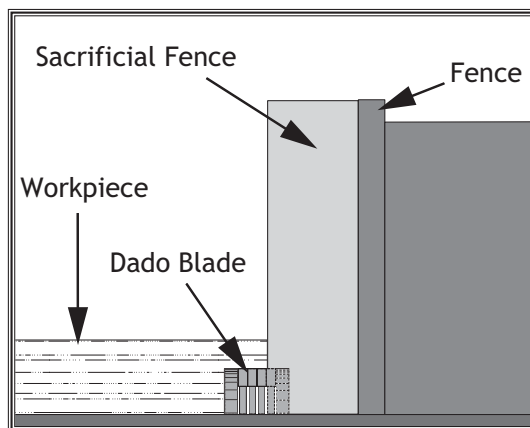

Figure 83. Rabbet cutting.
1. Lower the blade, position the sacrificial fence over the blade as far as necessary for your rabbet size (see **Figure 83**), then start the saw and raise the blade into the sacrificial fence to the height needed for the rabbet cut.
2. Adjust the fence and align the workpiece to perform the cutting operation as shown in **Figure 83**.